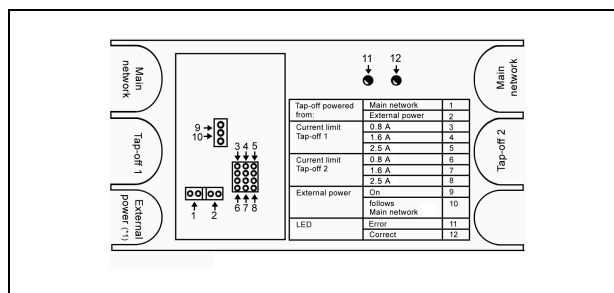

figure 18.3: Label inside network splitter
- 4 **Lid** - A lid that provides access to the jumpers (see section 18.2.2). The rear side of the lid contains a label with explanation about the internal settings (see figure 18.3).